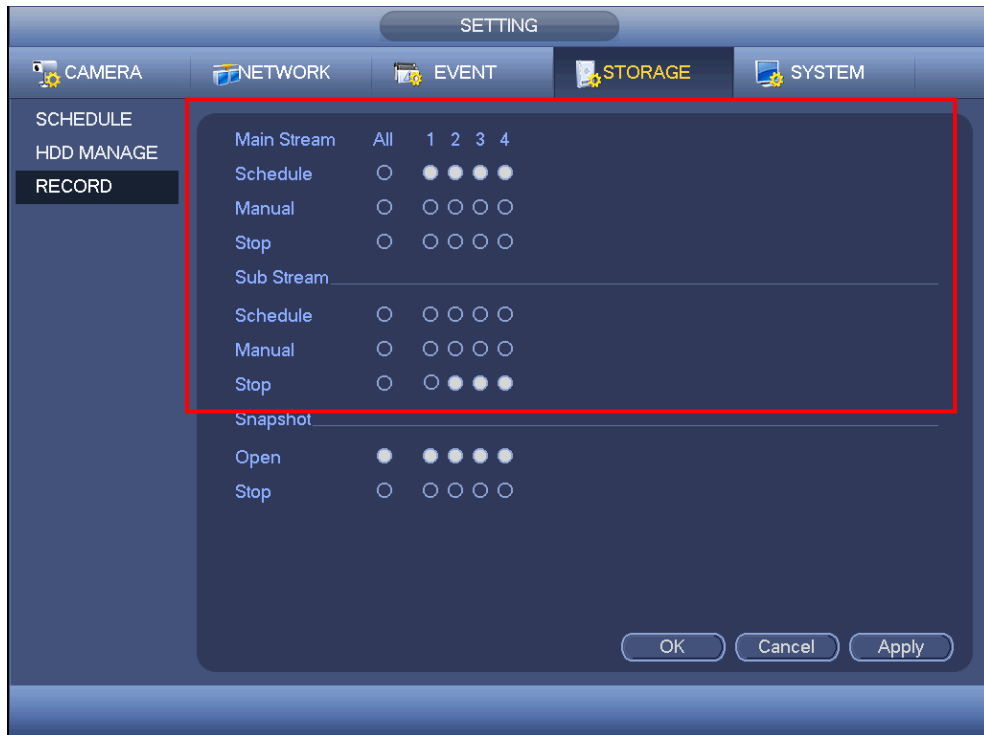

Figure 4-112
- System supports main stream and sub stream. There are three statuses: schedule/manual/stop. See Figure 4-112. Please highlight icon “○” to select corresponding channel.